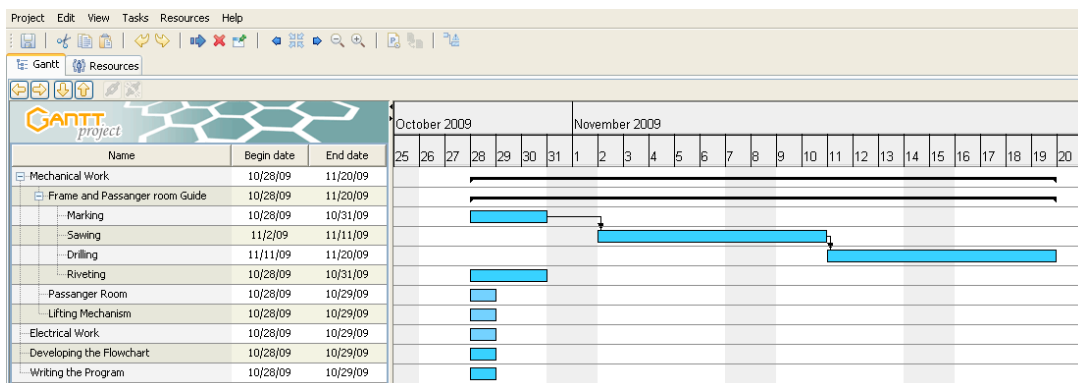

Figure 4.20: A sample of tasks dependencies.
16. Click and hold the Gantt bar for **sawing**, drag it to the Gantt bar for **drilling**, and then release the mouse button. This step specifies that the start of the third subtask is dependent on the completion of the second, and moves the start date of the third subtask as illustrated in figure 4.20.